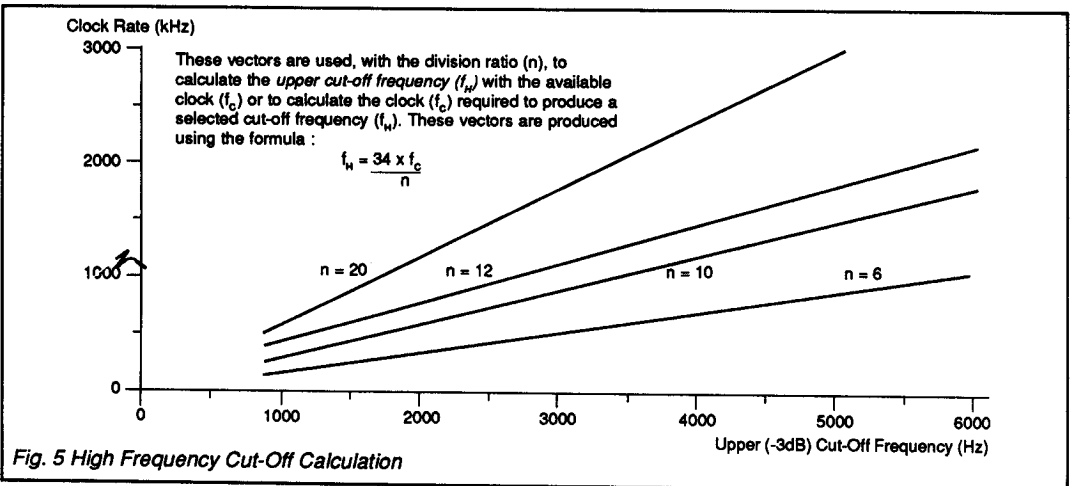

Fig. 5 High Frequency Cut-Off Calculation
**7** **4** **Lowpass Output** : The audio output of the lowpass filter section whose upper cut-off frequency (-3dB) is determined by the input clock frequency (fc) and the selection control inputs, S1 and S2, see Figure 5. This output is internally biased to VBIAS.